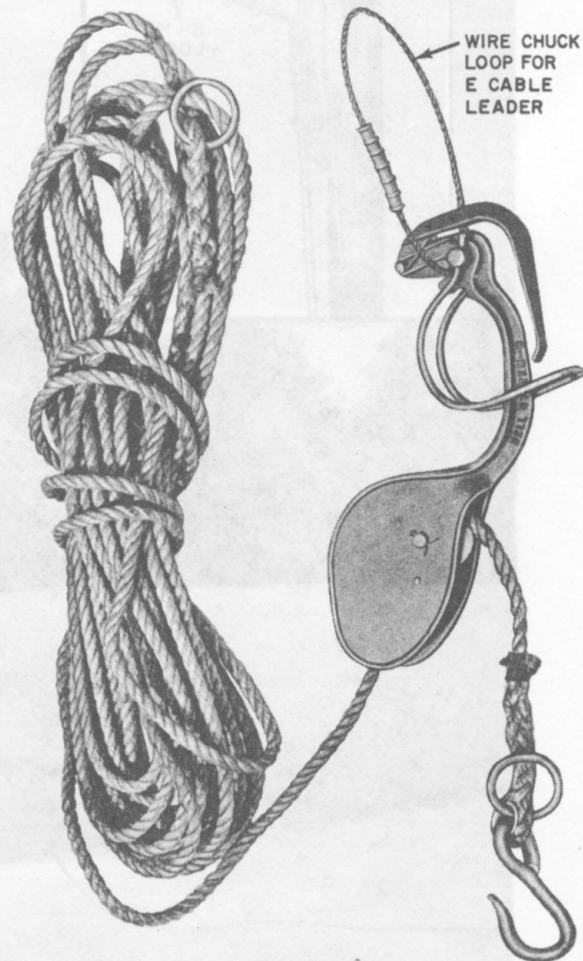

Fig. 7—B Aerial Handline
(9) After completion of the mid-span clamp attachment, raise the drop wire to the building attachment by means of a B Aerial Handline equipped with a wire "chuck loop" (Fig. 7). Hang the B Aerial Handline on the previously placed building attachment by the wire chuck loop. Remove the drop wire slack between the building and span clamp, and add drag on the drop wire reel. Place a temporary drop wire